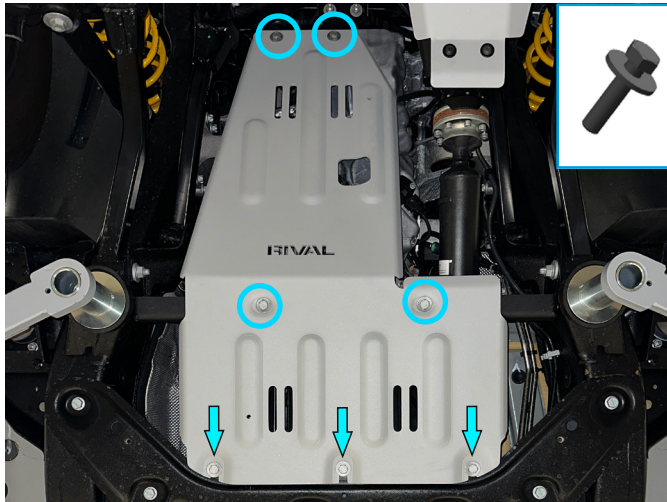

Fig. 9
7. Slide the rear part of engine skid plate (item 1) under previously installed bolts M10x30 from step 6. Secure skid plate to bracket and crossmember using bolts M10x30 and washers M10 (items B, E) (Fig. 9).